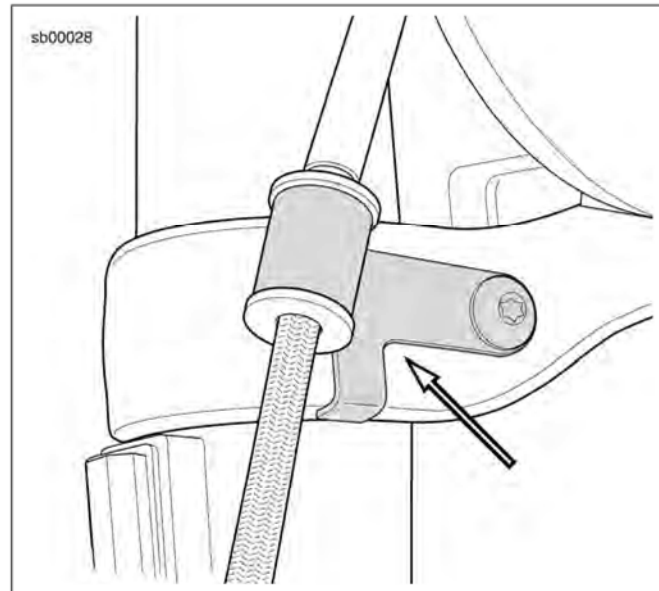

Figure 3. Front Brake Line Guide: XB12Scg Replacement and 1125R/XB12R/XBScg Re-route
- See Figure 3. Install the guide and tighten to 36-60 **in-lbs** (4-7 Nm).
6. Re-route the brake line (3) outside of the front fork.
9. See Figure 3. Install the guide and tighten to 36-60 in-lbs (4-7 Nm).
10. **XB12Scg:** See Figure 3. Install the front brake line guide. Tighten to 36-60 in-lbs (4-7 Nm).